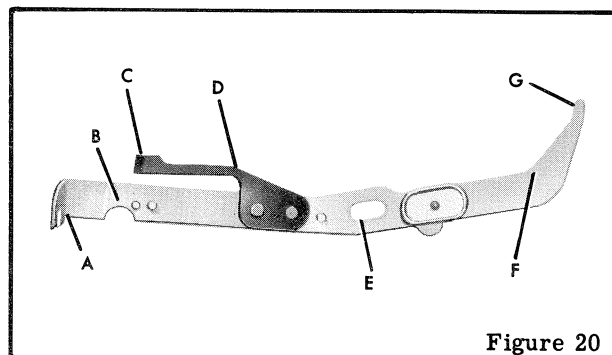

Figure 20
ADJUSTING THE SAFETY LEVER (See figure 20).
If necessary, bend the lever up from point (A) to point (B) in order to raise the top prong sufficiently so that it will clear the gear on the safety control cam complete (figure 7). The prong must not touch the teeth of the gear. It may also be necessary to bend the lever slightly toward the back of the camera between points (A) (figure 20) and (B) in order to allow the top prong of the safety lever to make positive contact with the slot in the disk just above the gear.